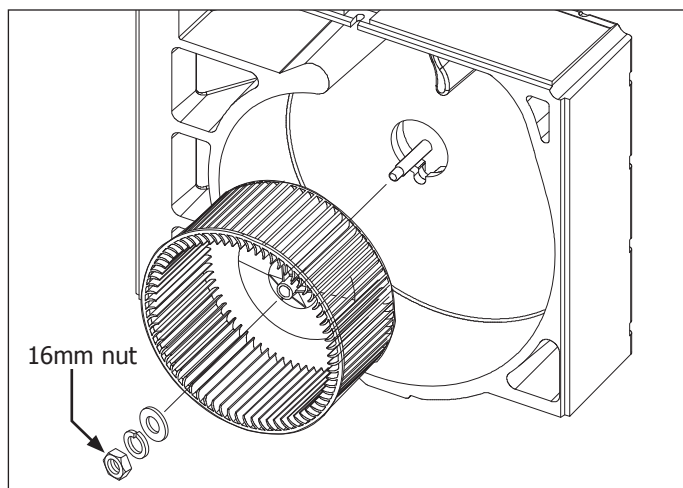

Figure 4-23.
4. Use a 16mm socket or wrench and remove the nut securing the blower wheel to the motor shaft. Pull the lock washer and washer off shaft, then pull blower wheel off shaft. (See Figure 4-23)